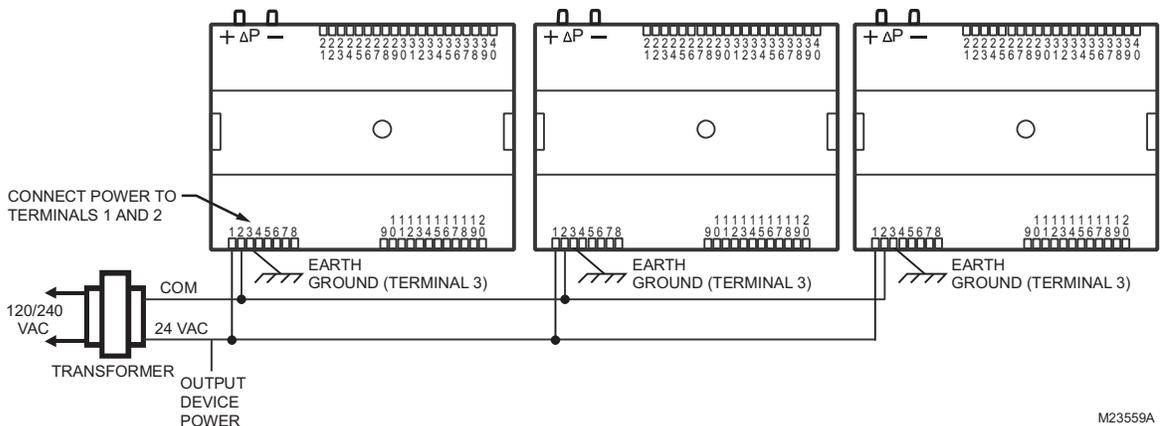

Fig. 13. Power wiring details for two or more controllers per transformer.
- *When multiple controllers operate from a single transformer, connect the same side of the transformer secondary to the same power input terminal in each device. The earth ground terminal (terminal 3) must be connected to a verified earth ground for each controller in the group (see Fig. 13 on page 11).*
See Fig. 11–Fig. 13 beginning on page 10 for illustrations of controller power wiring. See Table 4 for VA ratings of various devices.
- For multiple controllers operating from a single transformer, the same side of the transformer secondary must be connected to the same power input terminal in each device. The earth ground terminal must be connected to a verified earth ground for each controller in the group (see Fig. 13 on page 11). Controller configurations are not necessarily limited to three devices, but the total power draw, including accessories, cannot exceed 100 VA when powered by the same transformer (U.S. only).
- Keep the earth ground connection wire run as short as possible (refer to Fig. 11–Fig. 13 beginning on page 10).
- Do not connect earth ground to the controller's digital or analog ground terminals (refer to Fig. 11 and Fig. 13).
- For multiple controllers operating from a single transformer, the same side of the transformer secondary must be connected to the same power input terminal in each controller. Controller configurations will not necessarily be limited to three devices, but the total power draw, including accessories, cannot exceed 100 VA when powered by the same transformer (U.S. only). For power and wiring recommendations, See “Power” on page 7. The earth ground terminal (terminal 3) must be connected to a verified earth ground for each controller in the group (see Fig. 13 on page 11).
More than one controller can be powered by a single transformer. Fig. 13 shows power wiring details for multiple controllers.